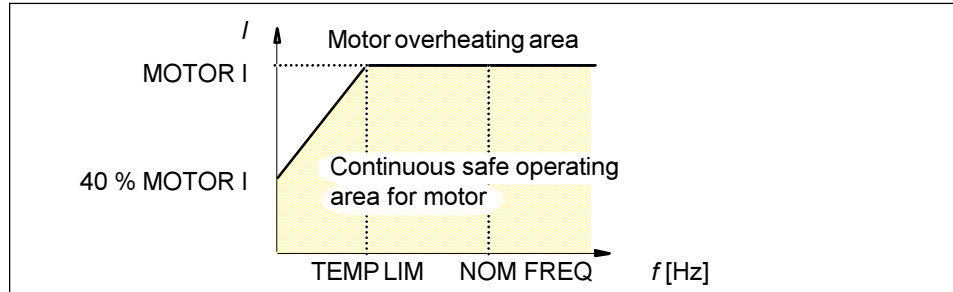

Figure 7-7. Motor thermal protection.
**TEMP LIM** The ACS 200 motor thermal protection (sometimes called  $I^2t$  or solid state overload protection) is activated using the TEMP LIM parameter. When set to OFF, the motor overload protection is deactivated. The TEMP LIM and MOTOR I parameters define the continuous safe operating area for the motor, as illustrated in figure 7-7.